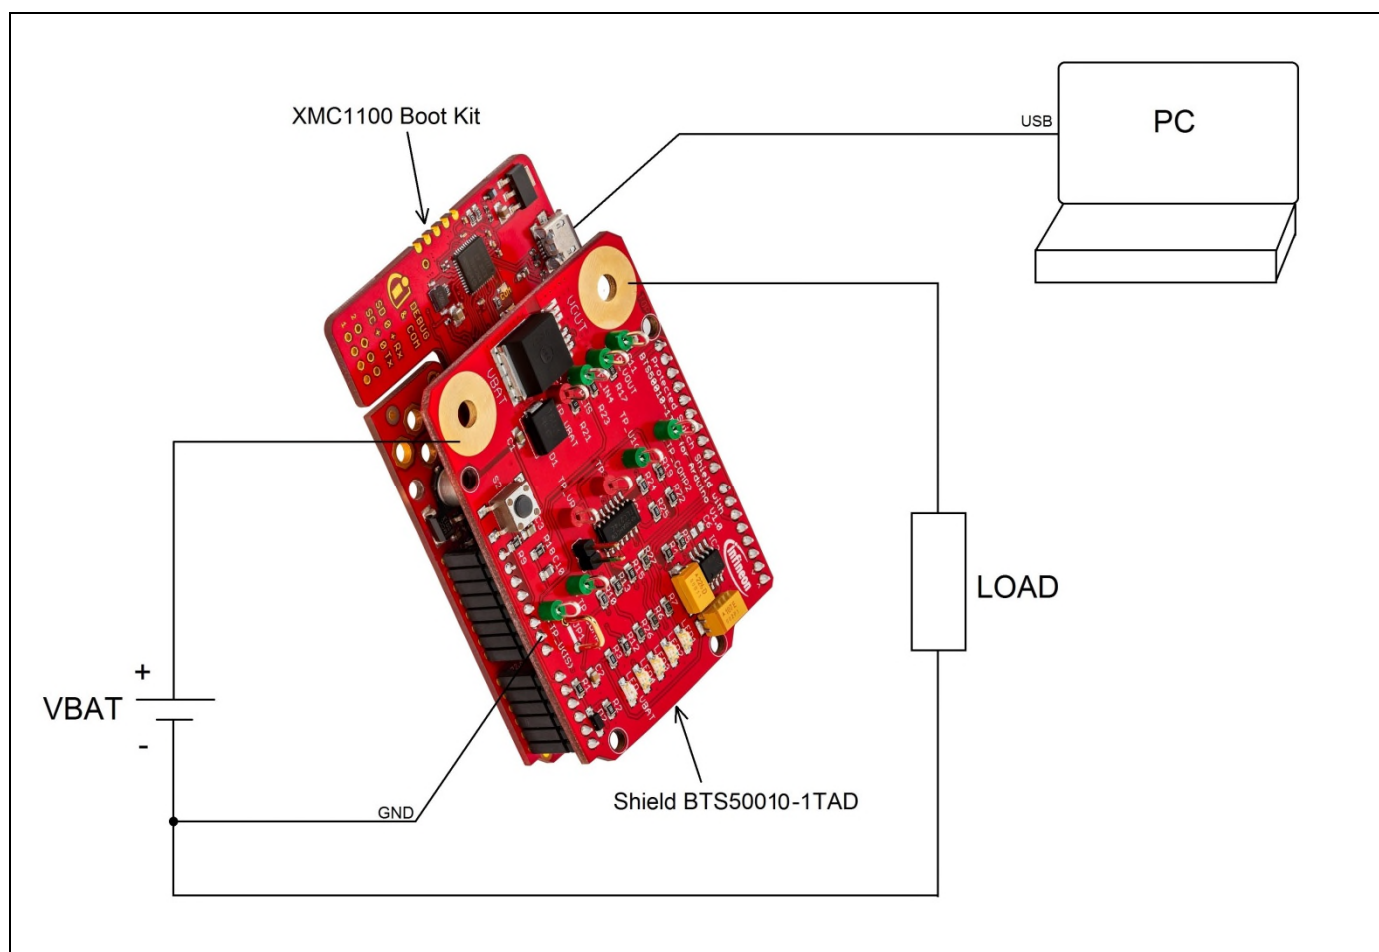

Figure 10 Example circuit of BTS50010-1TAD shield and XMC1100 Boot Kit
- Connect the GND of shield's with the ground of your power supply. Connect the output of the terminal (VOUT) with your load and the load to the GND of your power supply. Now connect the plus pole of the power supply to VBAT of the shield. Your power supply should not exceed 18V for nominal operation. Please see also figure 10 at next page.